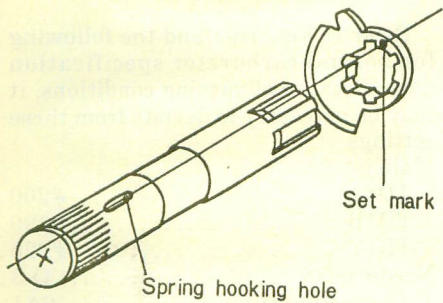
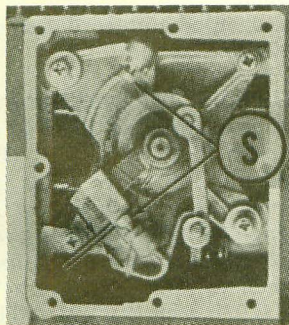

Fig. Y5-21—Mark on kickstarter gear should be aligned with spring hooking hole as shown.
Fig. Y5-22—Gear change stop bolts (S) should have approximately 1MM clearance when stop ball engages detent in shifter cam.
**CRANKCASE AND GEAR BOX.** The 5 speed transmission is shown in Figs. Y5-19 and Y5-20. The kickstarter gear should be installed on shaft with mark on gear aligned with spring hooking hole as shown in Fig. Y5-21. Shifter stop bolts (S—Fig. Y5-22) should have approximately 1MM (0.04 in.) clearance as the stop ball falls into detent in the cam.